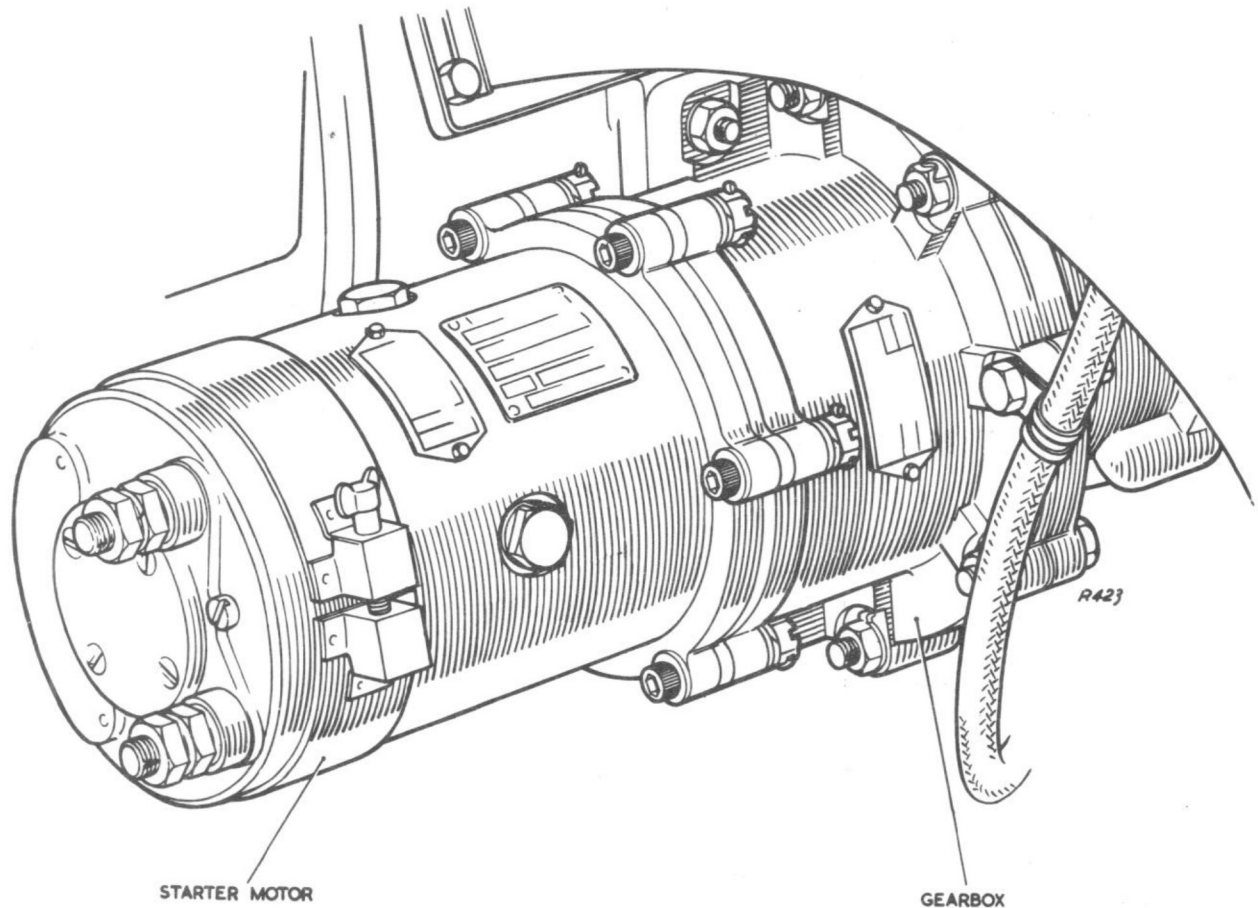

Fig 10 Starter Motor
46. The only routine servicing specified for the starter motor is a periodic check of the starter brush wear (fig.10). A description of the servicing and examining procedures for the starter motor will be found in A.P.4343D, Vol.1, Book 1, Sect.1, Chap.10 and this publication must be referred to before carrying out any work on the starter.